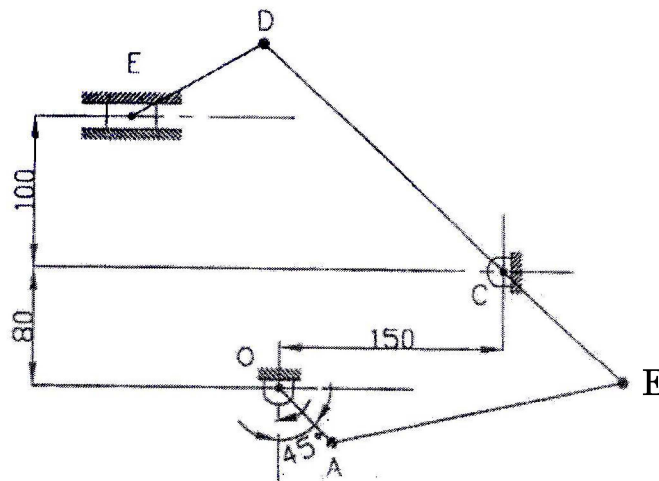

Fig. 3
6. (a) Fig. 3 shows part of an opposed piston engine mechanism. The velocity of the piston E for the given instant is 780 mm/s. The crank 'OA' rotates at uniform speed in clockwise direction and makes an angle of 45° to the vertical as shown in Fig. 3. Draw velocity and acceleration diagram and determine :